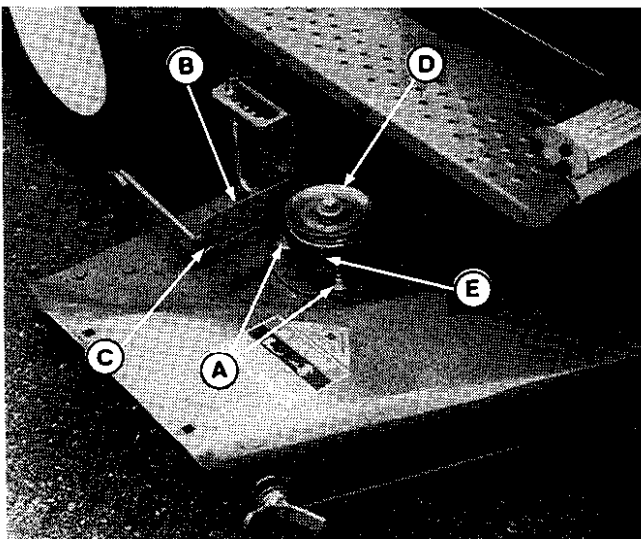
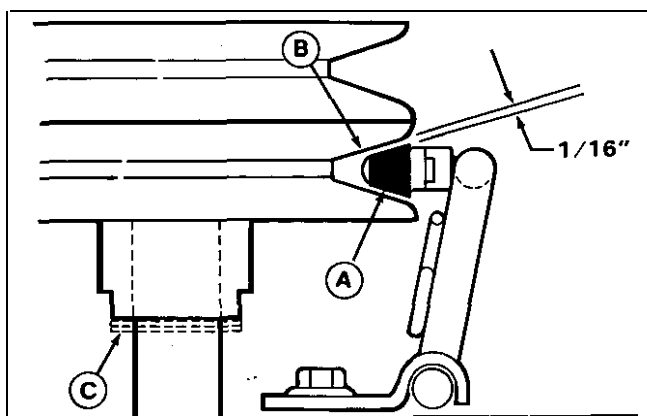
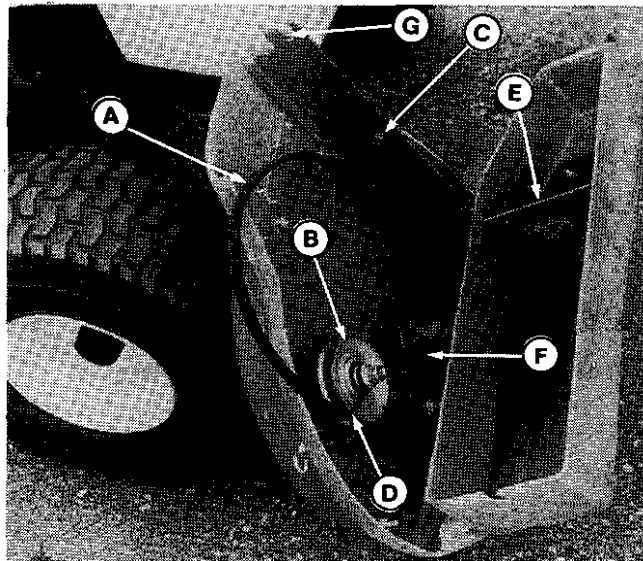
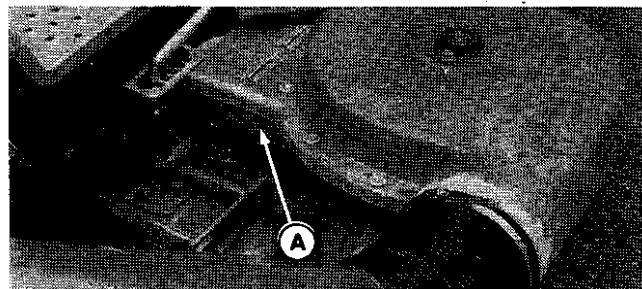

Figure 8.
Figure 9C. B. Bottom Groove Double Pulley
Figure 10.
Figure 14.
3. Remove brake spring or spring anchor (if equipped) and two self-tapping screws from arbor. Install two 5/16-18 x 1-1/2 capscrews (A, figure 8).
4. Before installing arbor **bracket** (B, figure 8), remove washer from underneath blade brake bracket (rear capscrew). Arbor bracket is same thickness as washer and will replace washer.
7. Install new arbor pulley (D, figure 8) with **hub down**. Use new  $7/16-14 \times 2-1/4$  **capscrew** and washers removed in step 2. Torque to 55 to 60 ft. lbs. Use wood block to prevent blade from turning. It may be necessary to add washer(s) (two provided) underneath the new pulley to properly align brake pad and bottom groove. Refer to figure 9C.
8. Slip the mower drive belt onto the lower groove of the new pulley (D, figure 8). With the belt engaged, adjust the belt stops  $1/8$ " from belt. Tighten the hardware.
- b. Inspect the brake pad (A, figure 9C) to V-pulley (B) **clearance**. With PTO engaged, clearance should be  $1/16$  inch as shown in figure 9C.
- IO. The baffle (E, figure 10) is installed in the blower housing for use with 42" mower. For use with 48" mower, remove the baffle and install in hole marked 48"...
- b. Align the notch (G, figure IO) with spacer on arbor bracket. Align spacer (C, figure 10) with otch (C, figure 8) on arbor bracket. Slide the assembly into place as shown in Figure 14, while aligning front notch between cup and wing nut (D, figure 12). Tighten wing nut.